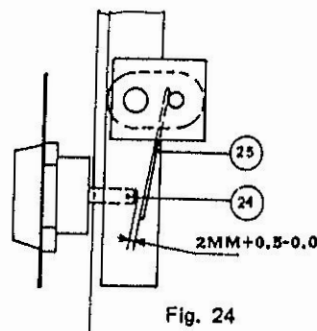

Fig. 24
If the breaker is fitted with a signal system for overload and short circuit tripping with local reset, adjustments should be carried out as previously outlined. In other cases, adjust screw (24) (Fig. 24) for obtaining clearance of $2 + 0.5 - 0.0$ mm ($0.079 + 0.158$ inch) between strip (25) and the end of the screw (24).